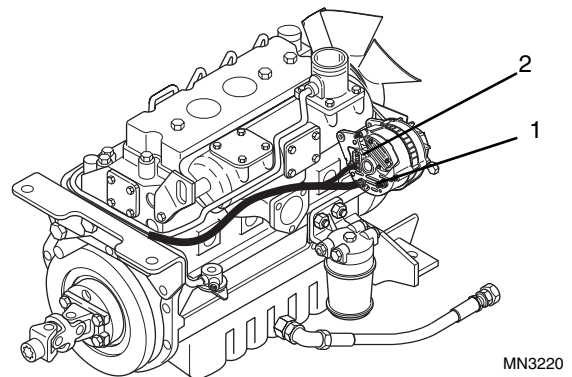

Figure 10-62 Alternator Wiring
31. Disconnect red/gray wire #19 (Fig. 10-62, 1) from B+ alternator terminal.
32. Disconnect yellow wire #7 (Fig. 10-62, 2) from alternator spade terminal.